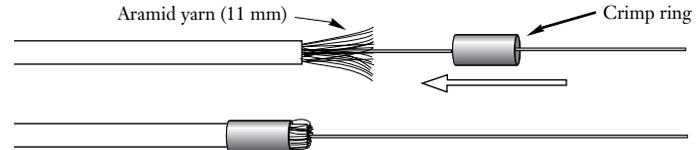

Figure 5-22
- 5.5-7 Fold the aramid yarn back over the cable jacket and slide the crimp ring about 5 mm (0.2 in) down the yarn to hold it out of the way (Figure 5-22).